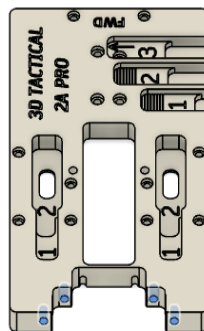

Figure 0-3
- 4 holes at the rear of the top plate. Refer to Figure 0-3